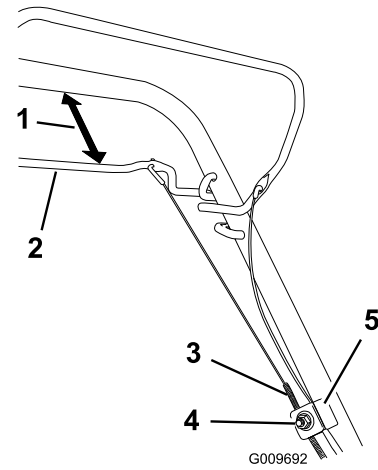

Figure 25
- Loosen the cable support nut (Figure 25).
- Hold the self-propel bail 1 to 1-1/2 inches (25 to 38 mm) from the handle (Figure 25).
- Pull down the cable jacket (toward the mower) until there is no slack in the cable (Figure 25).